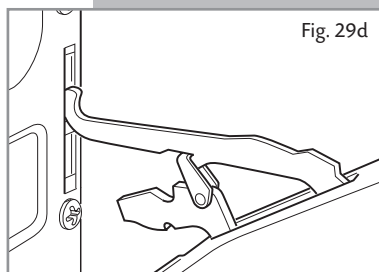

Fig. 29d
- Now pull the oven door forwards off the appliance. Release both hinge sections from the slots (fig. 29d).